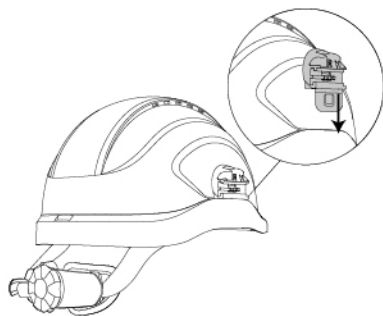

fig.11
•Insert adapter base into hard hat slots.(See fig.11).